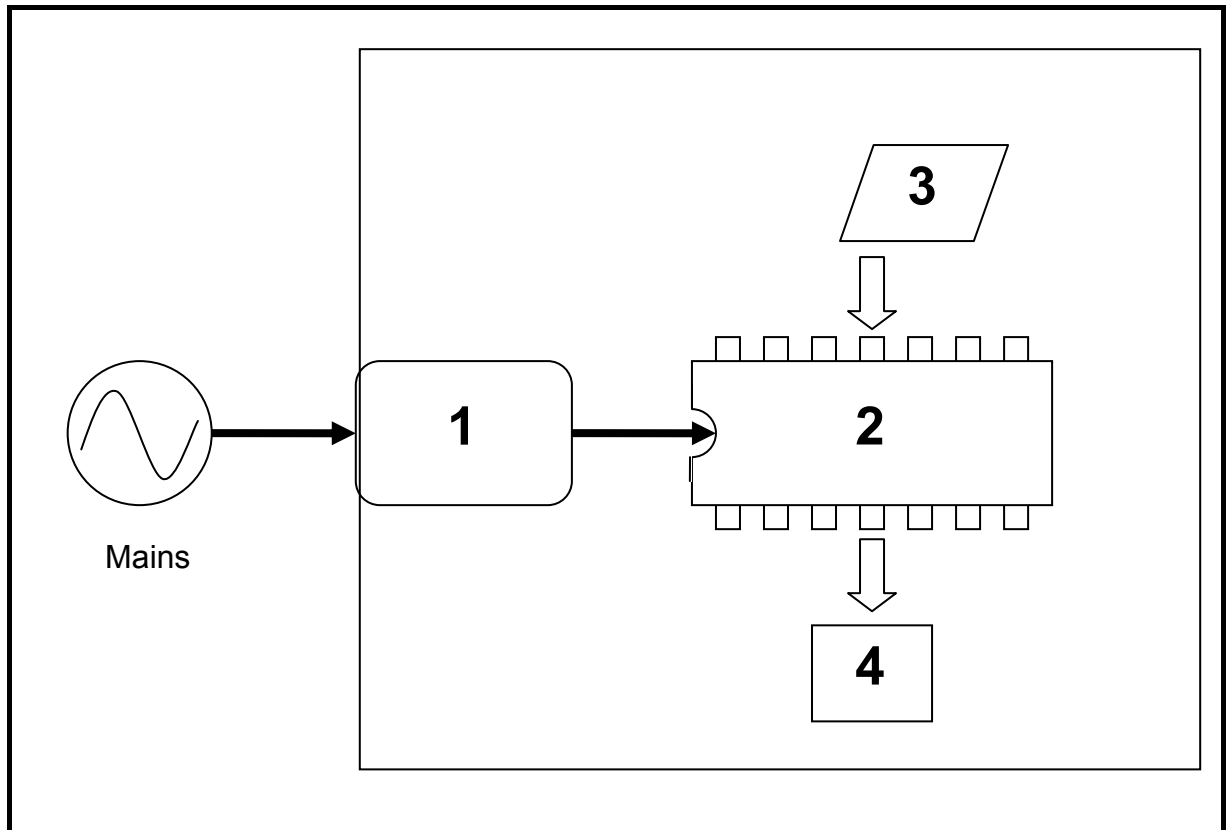

FIGURE 9.1 – PROGRAMMABLE LOGIC CONTROLLER (PLC)
- 9.1 Identify the main components, indicated by numbers 1 to 4, of the programmable logic controller (PLC) shown in FIGURE 9.1.